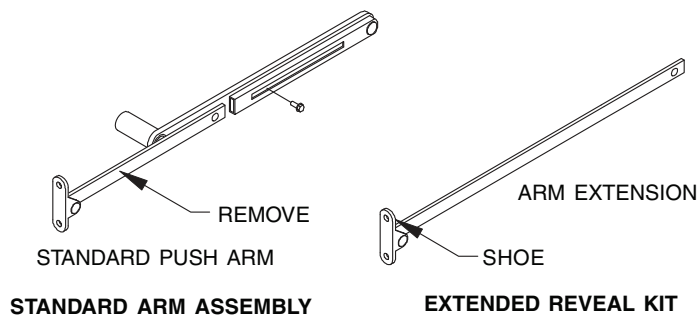
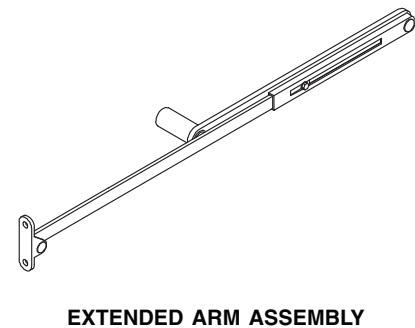

Figure 3
Figure 4
3. Extended arm assembly (Figure 4) replaces the standard arm assembly that comes with the Benchmark (Figure 3). Extended reveal kit requires that the installer remove the standard push arm (Figure 3) from the arm linkage and replace it with the arm extension (Figure 3).